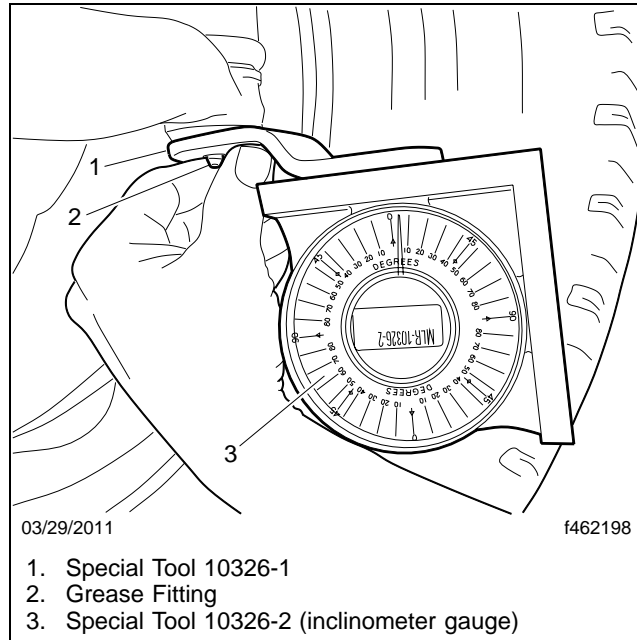

Fig. 3, Measuring Tie-Rod End Angle
22. Install special tools 10326-1 and 10326-2 (inclinometer gauge) on the bottom surface of the right tie-rod end. The grease fitting should be centered in the hole on special tool 10326-1. See **Fig. 3**.